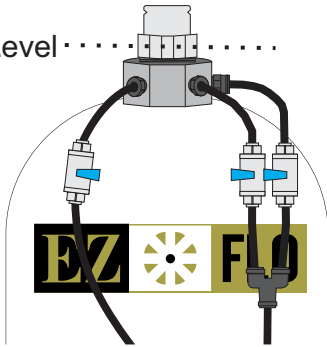

Figure 5-1
Step 6 - Watch fluid level in tank and close all valves once level reaches fill port (figure 5-1). Over flowing the tank is not necessary.